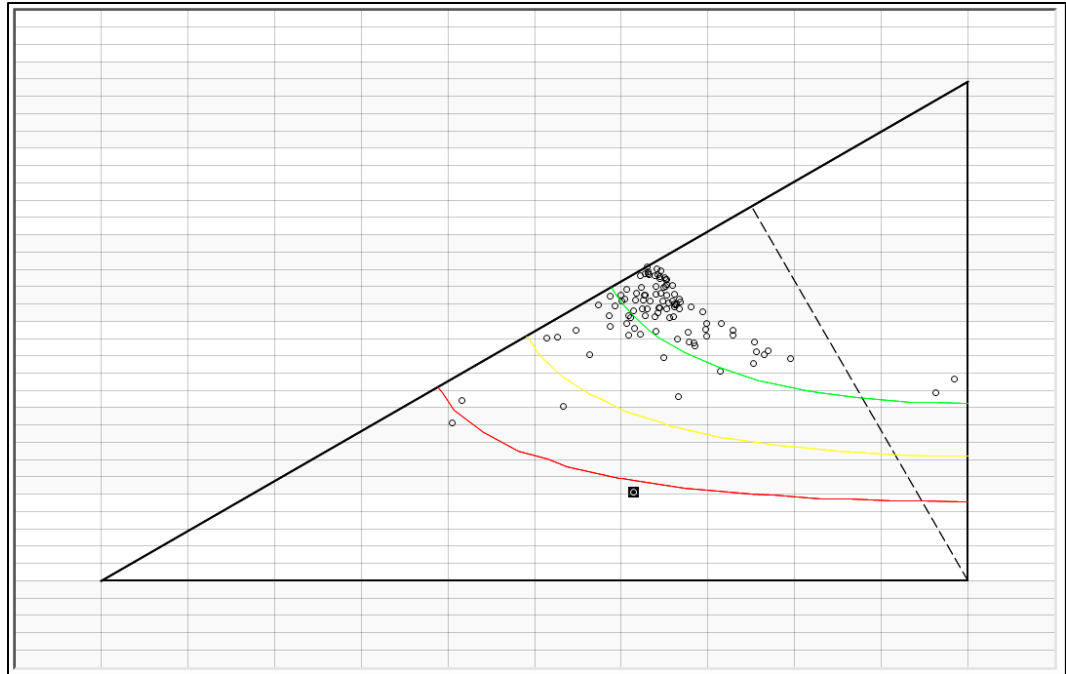

Figure 3: The ARR Plot
3. Click the **Finish** button. A new window opens with a plot similar to  Figure 3.